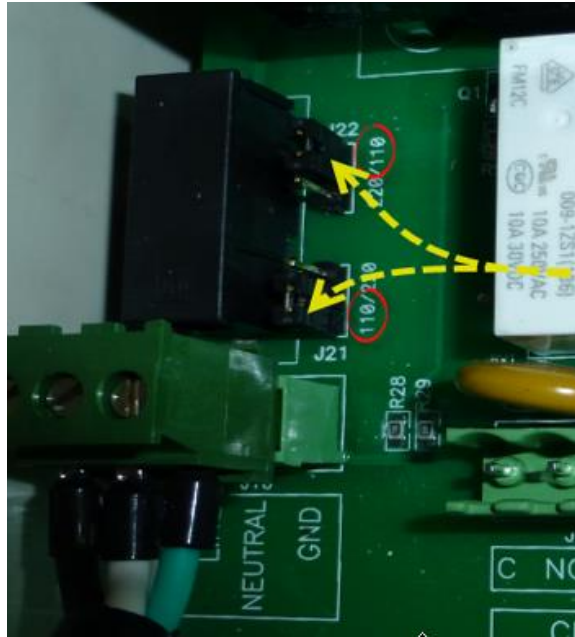
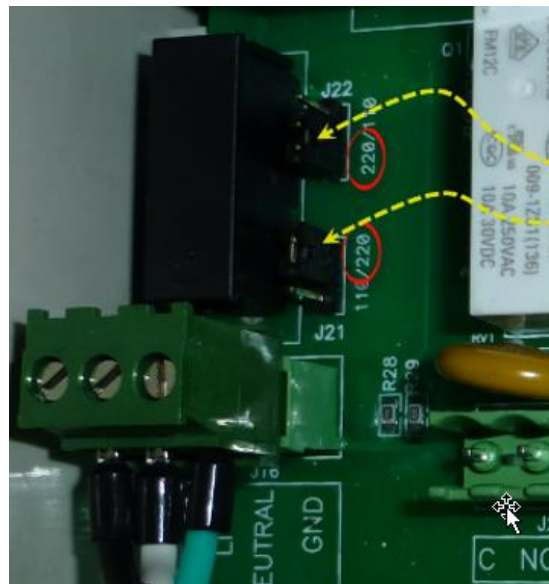

Figure 5: 115-120VAC setting
Figure 6: 200-230VAC setting
The Main Power Supply may be connected to either 115-120 or 200-230VAC 50/60Hz. Switching between voltages is accomplished by changing two (2) jumpers (Figure 4) located above the main power connection, to the left of the transformer (Figure 5 & 6):
To change the configuration use jumpers J21 & J22 on the I/O card. For 115-120VAC see the jumpers setting per Figure 5. For 200-230VAC see jumpers setting per Figure 6.